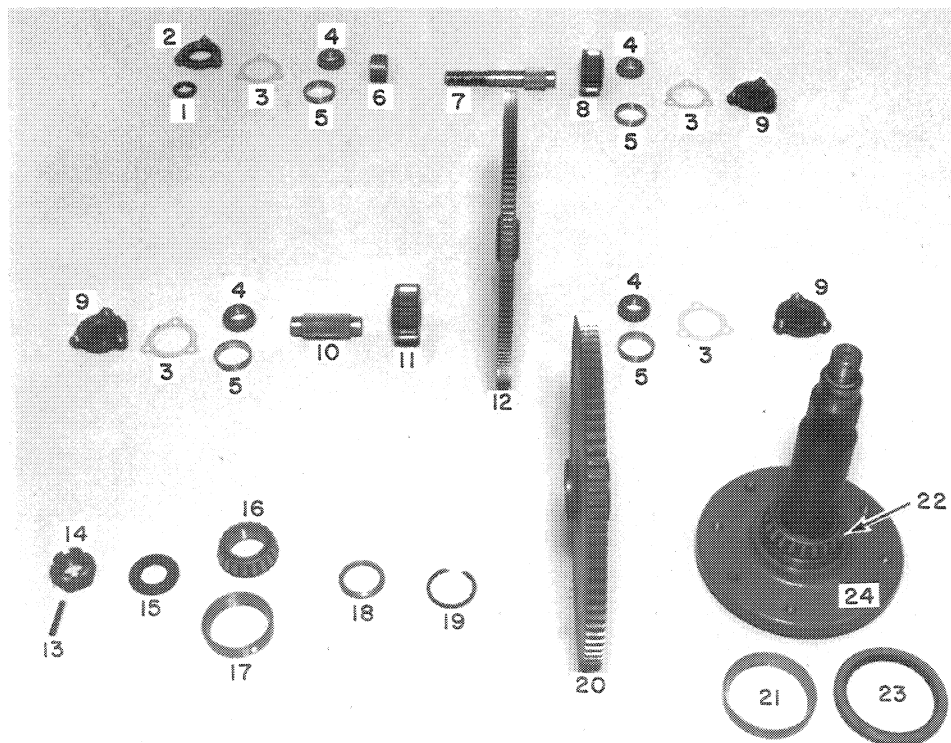

FIGURE 1-4
## B. PARTS LIST - SEE FIGURE 1-4
### C. DISASSEMBLY FIGURES 1-4 THROUGH 1-11
- a. Check bores for the six bearing cups for wear or burrs. The cups will be a push or drive fit in the case. Intermediate and top shaft bearing holes in the case are 1.9810" to 1.9820." The cup (5) outside diameters are 1.9800" to 1.9810". The axle shaft hole is 4.1305" to 4.1315" for the large bearing. The cup (21) outside diameter is 4.1331" to 4.1339". The axle shaft hole is 3.263" to 3.264" for the smaller bearing. The cup (17) outside diameter is 3.265" to 3.266". See Figures 1-4 and 1-5.
or drive fit on the shafts. The intermediate (10) and top shaft (7) bearing seats are 1.0015" and 1.0025". The inside diameter of the bearing cones (4) is 1.0000" to 1.0008". The axle shaft bearing seat for the larger bearing is 2.5605" to 2.5610". The inside diameter of bearing cone (22) is 2.5585". The axle shaft bearing seat for the small bearing is 1.7510" to 1.7515". The inside diameter of the bearing cone (16) is 1.7500" to 1.7505". See Figures 1-4 and 1-5.